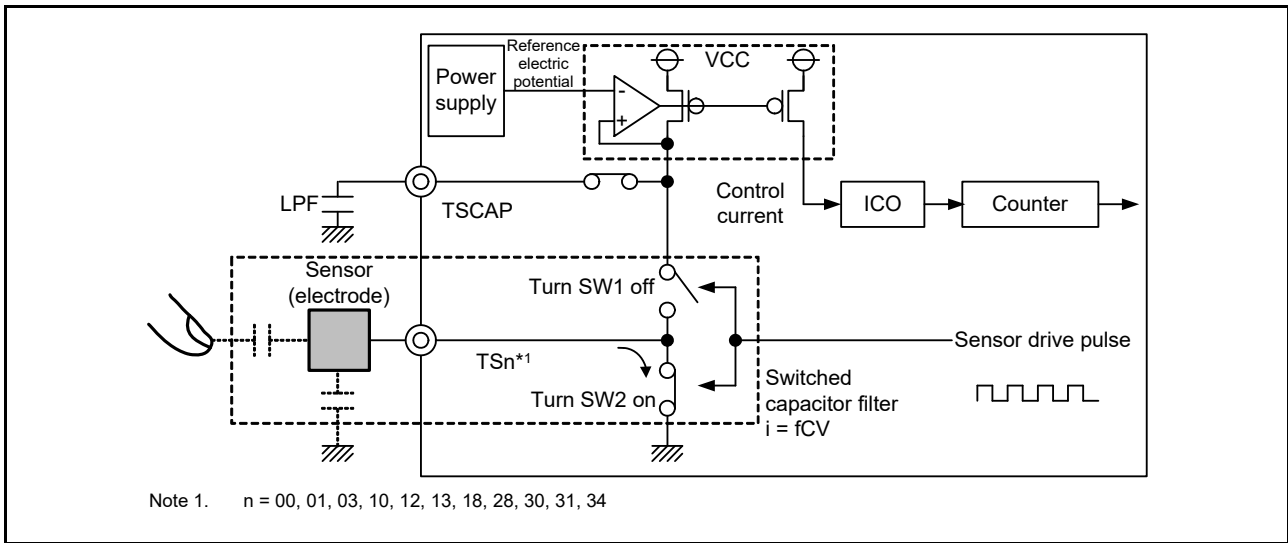

Figure 40.6 Discharging operation
2. The charged capacitance is discharged by turning SW1 off and SW2 on (See Figure 40.6).